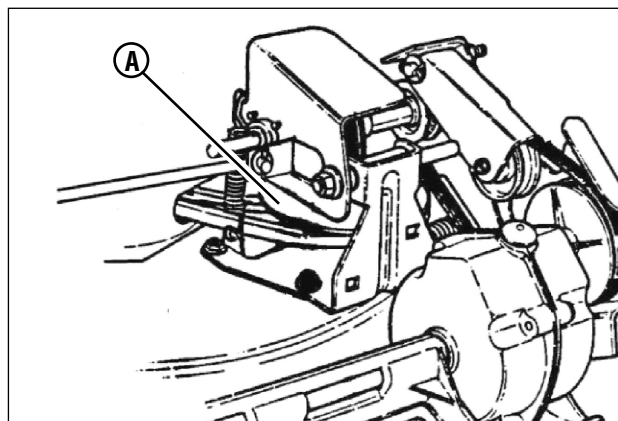

Figure 18: Location of the drive disc
*Note:* Do not spill grease or oil onto the surface of the drive disc (A, Figure 18).